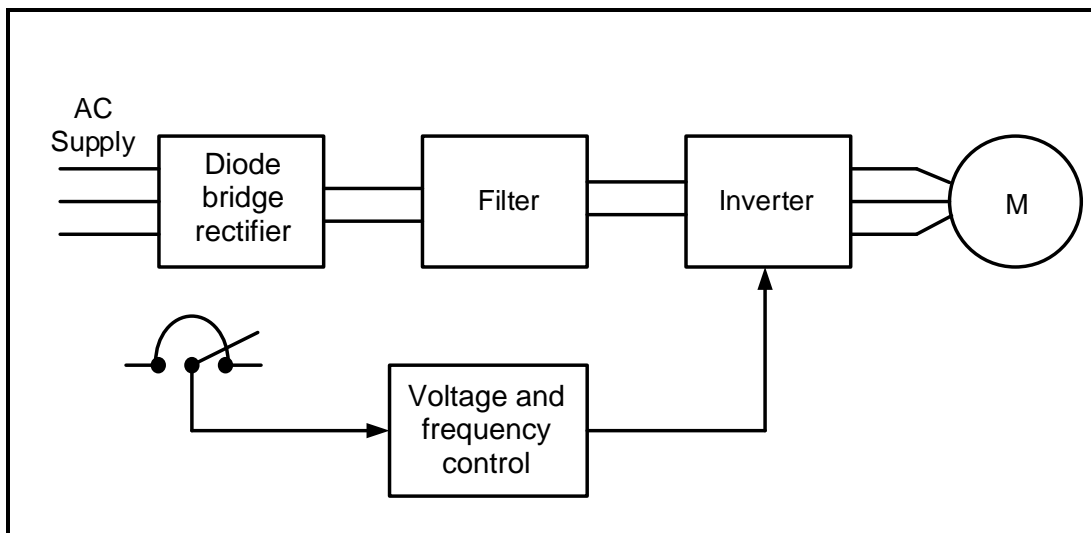

FIGURE 6.10: VARIABLE SPEED DRIVE
6.10 Refer to FIGURE 6.10 below and describe the function of each of the following: